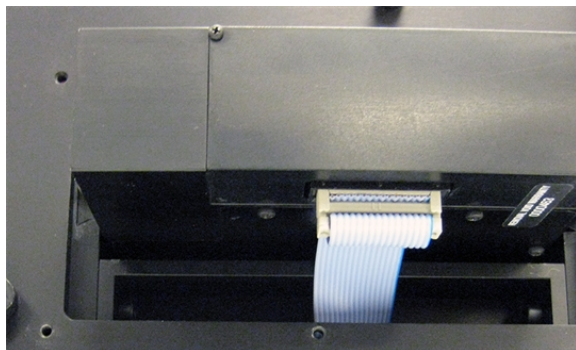

Figure 7-2: Ribbon cable on the bottom of a disk box
8. On the bottom of the disk box, carefully unplug the ribbon cable. See Figure 7-2.